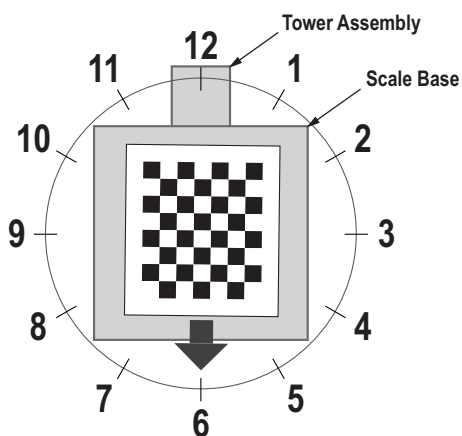

Figure 5-8. Rotate to 6 o'clock
9. Align calibration object so the cross hairs are centered. Rotate the calibration object to 6 o'clock with the tower assembly being at 12 o'clock (Figure 5-8).